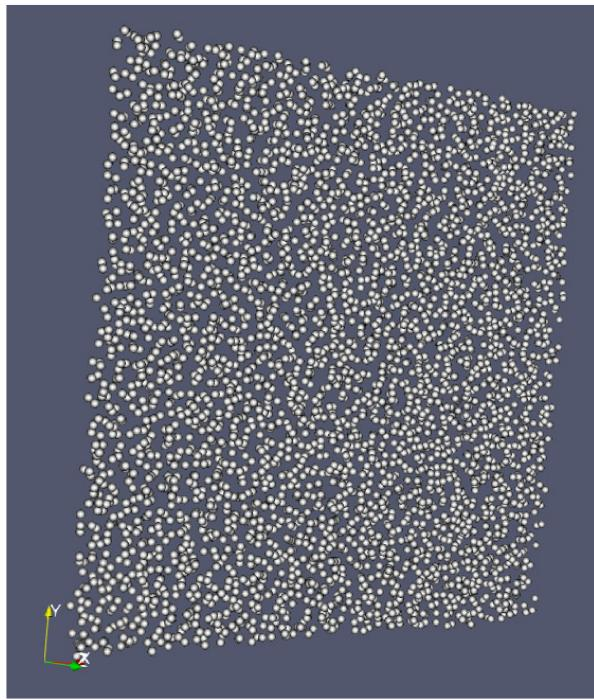

Fig. 13.3: : Particle image generated with ParaView
4. Change the Gaussian Radius if you like. You can scroll through the frames with the VCR-like controls at the top, as shown in Fig. 13.3.